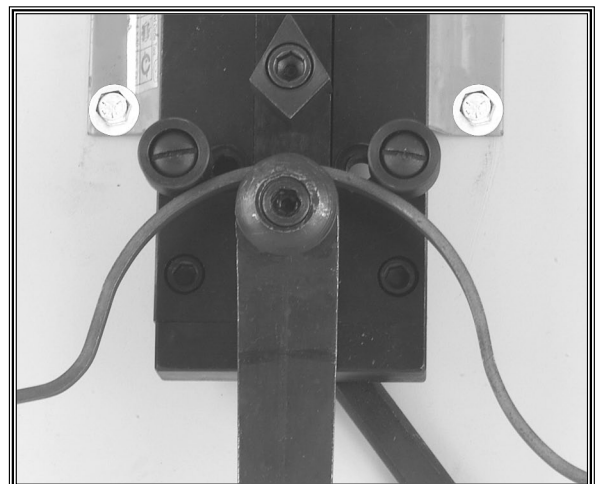

Figure 15. Guide rollers positioned in the outer location for larger radii.
- To bend metal for larger radii, use the outer set of holes (**Figure 15**).